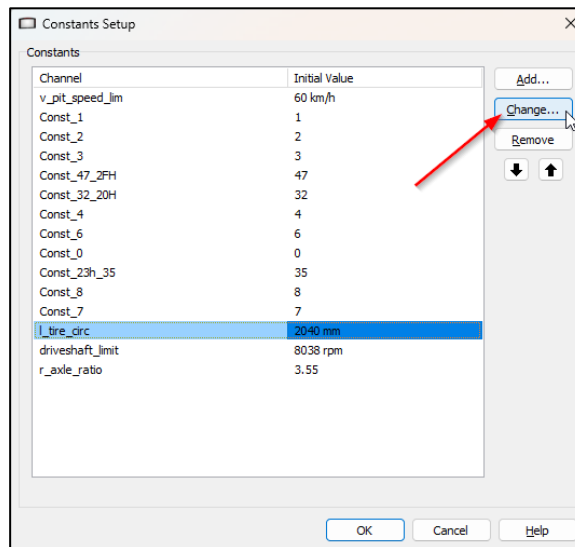

Figure 4.62: Changing the tire circumference value
- From here select 'l_tire_circ' from the constants list and click the 'Change...' button as shown in Figure 4.62.